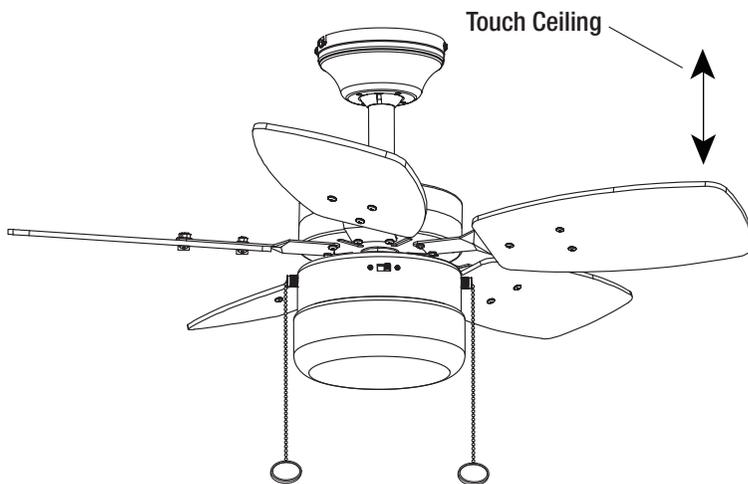

Figure 12
- Most fan wobble problems are caused when blade levels are unequal. Check this level by selecting a point on the ceiling above the tip of one of the blades. Measure this distance as shown in Figure 12. Rotate the fan until the next blade is positioned for measurement. Repeat for each blade. Measurements should be within 1/8 in.